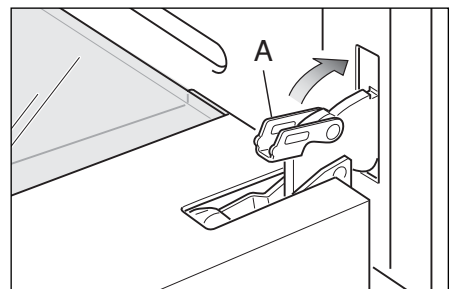

Fig.50d
- ### 4 Unlock the oven door by opening it completely and closing the lever "A" on the left and right hinges (Fig. 50d).